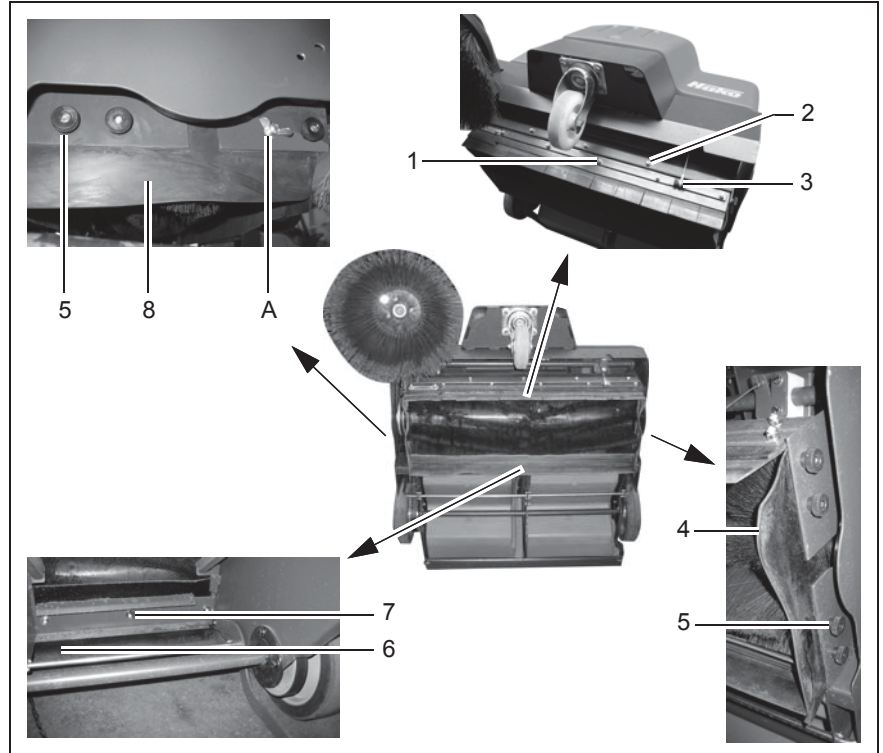
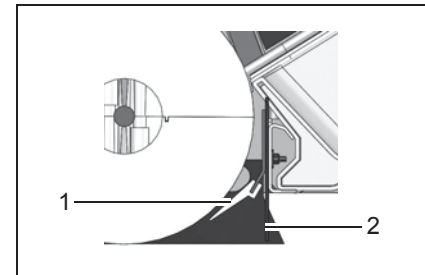

Fig. 22
Fig. 23
2. Unhook the Bowden cable which raises the folding apron (Fig. 22/3).
3. Disassemble the folding apron (Fig. 22/1) together with its holder: Unscrew the screw connections (Fig. 22/2).
4. Unscrew the screw connections (Fig. 22/2) in the clamping rail and remove the clamping rail.
7. Assemble the folding apron (Fig. 22/1) together with its holder and adjust the folding apron (Fig. 22/1) so that it lies lightly on the ground.
8. Hook in the Bowden cable which raises the folding apron (Fig. 22/3).
9. Unscrew the screw connections (Fig. 22/5) in the side aprons (Fig. 22/4+8).
10. Change the sealing strips and adjust the side aprons (Fig. 22/4+8): There must be approx. 2 mm clearance to the floor.
11. Screw the screw connections (Fig. 22/5) back in the side aprons (Fig. 22/4+8). Also screw the ground of the wing nut at Position A (Fig. 22/A).
13. Unscrew the screw connections (Fig. 22/7) in the rear aprons (Fig. 23/1+2).
14. Change the sealing strip and adjust the rear apron (Fig. 22/6): The clearance of the rear apron (Fig. 23/2) from the ground must be 2 mm.
15. Screw the screw connections (Fig. 22/7) back in the rear aprons (Fig. 23/1+2).